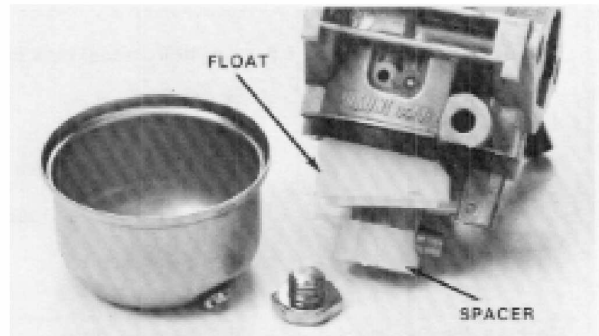

Figure 3-4
5. The bowl of the carburetor may be removed by unscrewing the retaining nut on the bottom of the bowl. See Fig. 3-4. The float and spacer (that limits float drop) are visible in this photograph.